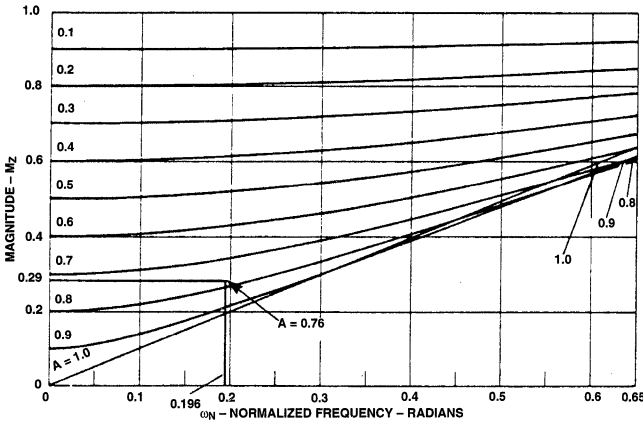

Figure 19. Magnitude Contribution of the Zero Term to the Closed Loop System Compensator.
The magnitude of the zero term where $A = .76$ at $\omega_{NC}' = 0.196$ on Figure 19 is $M_Z(\omega_{NC}') = 0.29$. The gain (K) which must be contributed by the digital filter is: